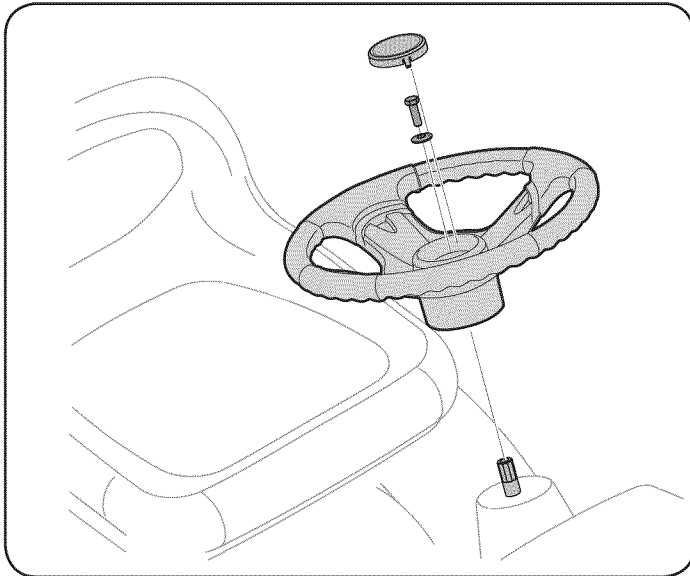

Figure 3
- Place the washer (with the cupped side down) over the steering wheel and secure with the hex bolt. See Figure 3.